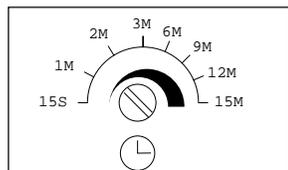

fig 17
- Adjust the TIME control to the setting you require. This controls the length of time the security light stays on once activated, after all motion stops. The minimum time (control set fully anticlockwise) is about 15 seconds; the maximum (control set fully clockwise) is approximately 15 minutes. Set the control at whichever timing suits you between these limits. (see fig 17 for approximate position of time settings).